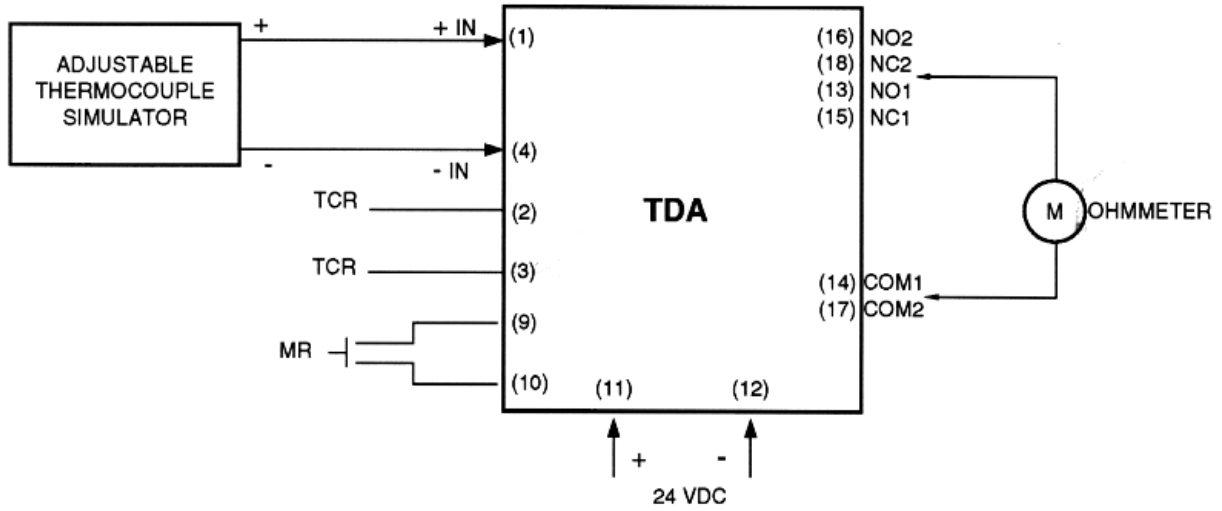
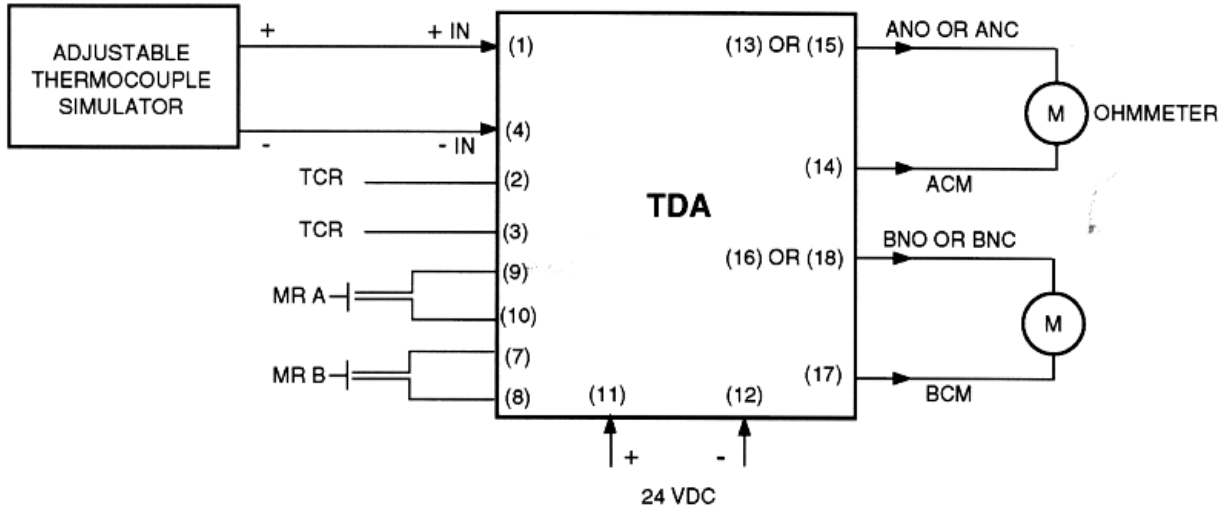

Figure 4. Calibration Setup for Single Alarm Units with Relay Outputs
Figure 6. Calibration Setup for Dual Alarm Units with Relay Outputs (SPDT)
Off-line calibration for all TDA units generally requires the same test equipment setup. Separate configurations are shown for clarity. The calibration setups for single alarm units are shown in figures 4 and 5. The calibration setups for dual alarm units are shown in figures 6 and 7.
2. Using the correct type of thermocouple extension wire, connect a thermocouple simulator to the input of the TDA. Connect an 18-30Vdc power source. See figures 4 through 7.